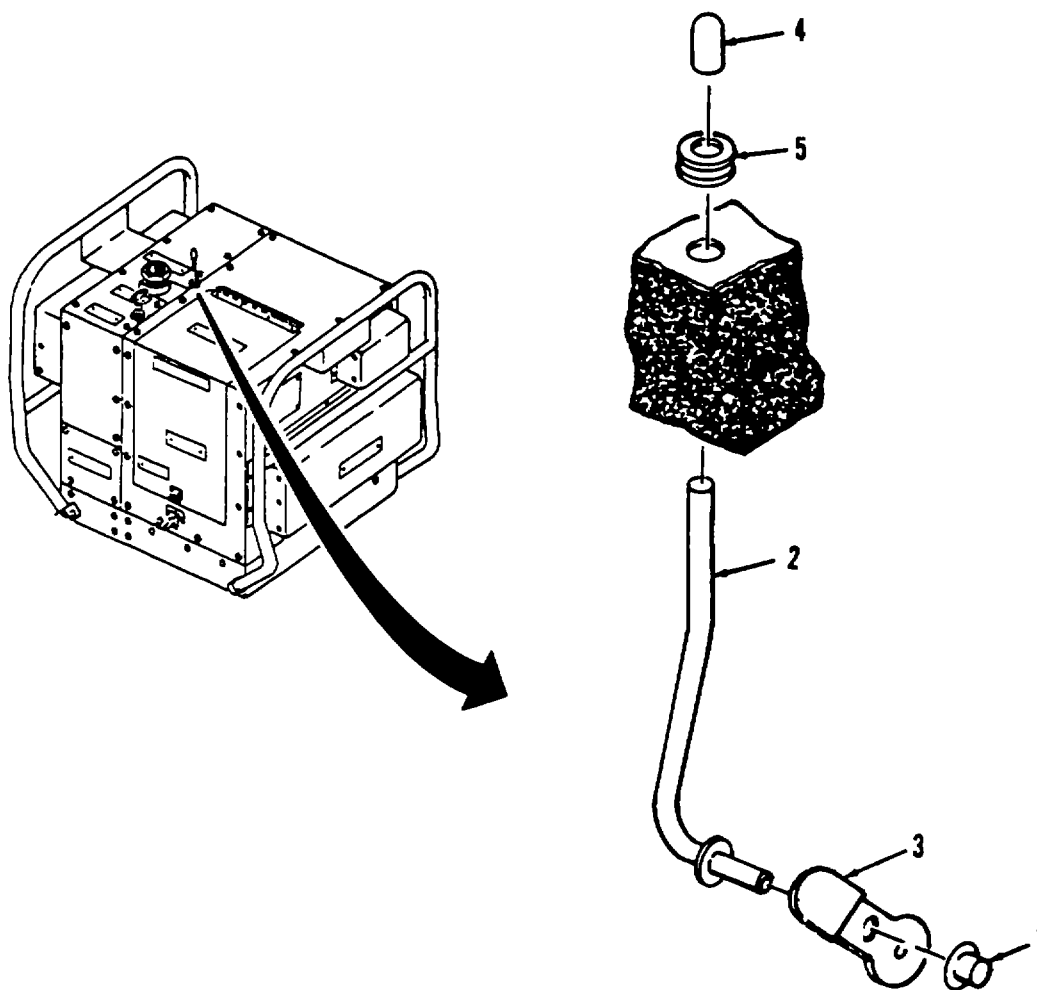

Figure 4-3. Compression Release Handle Replacement.
a. Removal. (Refer to Figure 4-3).
- (1) Remove push on nut (1) from compression release handle (2).
- (2) Remove compression release handle (2) from the compression release lever (3) on the engine.
- (3) Remove compression release handle (2) from unit.
- (4) Remove molded cap (4) from compression release handle (2).
- (5) Remove grommet (5) from unit.